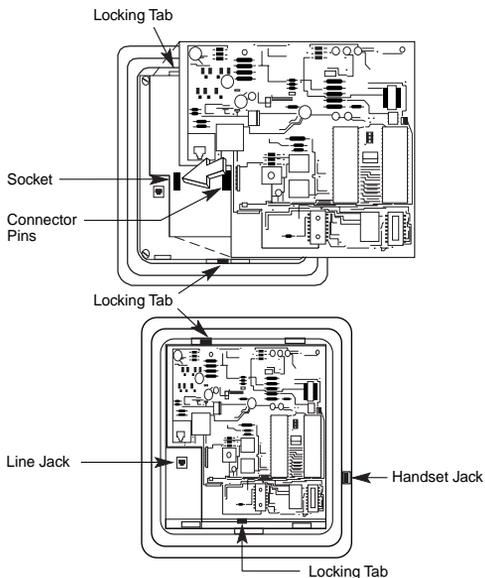

Figure 3-9. Installing an MFM Module
- ▶ 5. Install the new MFM. See Figure 3-9.